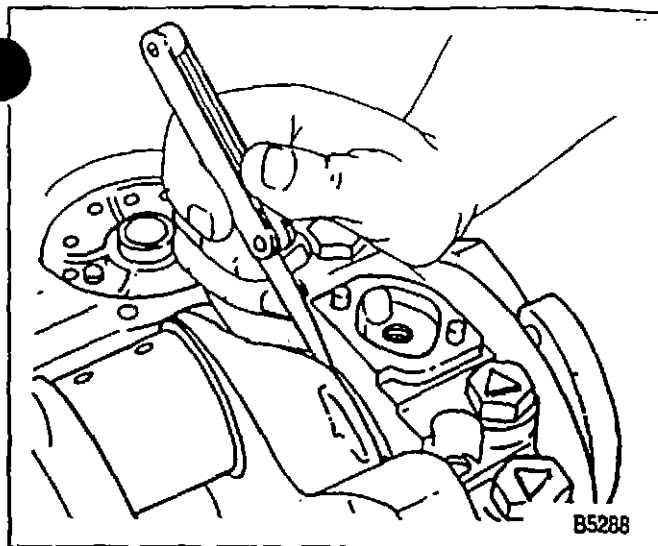

Figure 71—Measuring Crankshaft End Play
Measure (Figure 71)
B. With the crankshaft wedged forward, measure at the front end of the rear main bearing with a feeler gage (figure 71). The proper clearance is 0.0508-0.1524 mm (0.002-0.006-inch) (5.0L and 5.7L engines) or 0.0508-0.2540 mm (0.002-0.010-inch) (7.4L engines).